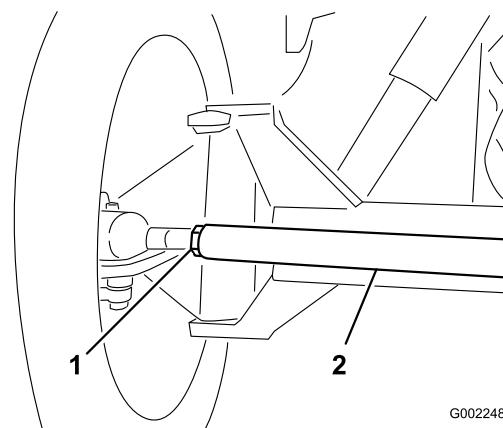

Figure 92
3. If the measurement does not fall within the specified range, loosen the jam nuts at both ends of the tie rod (Figure 92).